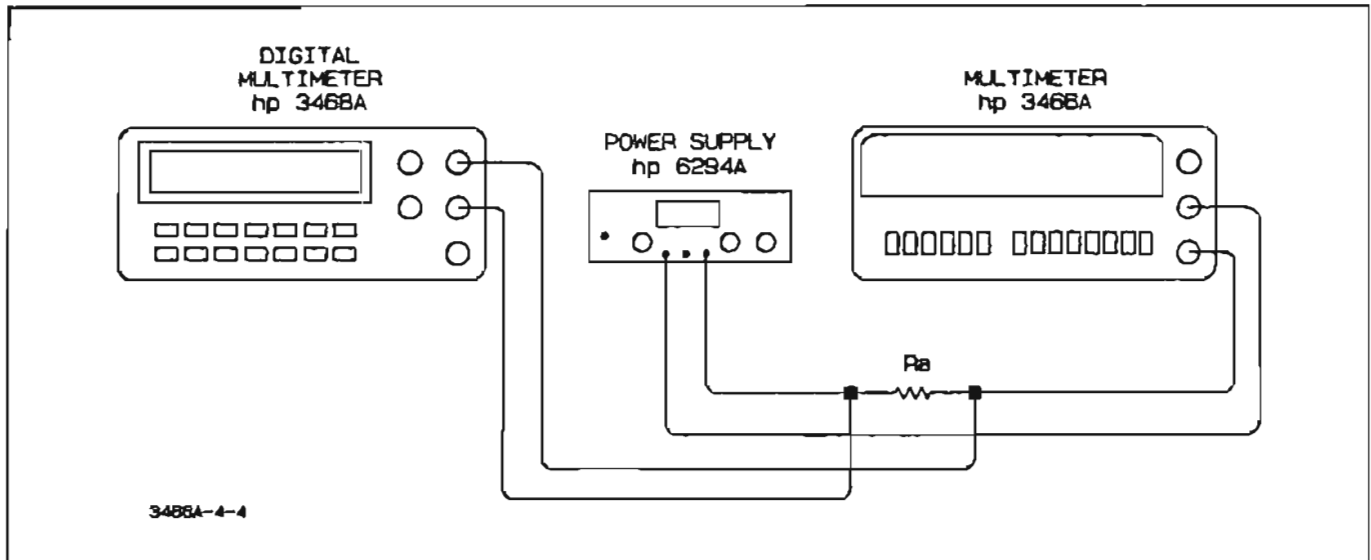

Figure 4-4. DC Ammeter Accuracy Test
- a. Connect the 3466A to the power supply and Digital Multimeter as shown in Figure 4-4.
- b. Connect the 100k ohm $\pm 0.01\%$ resistor in the R_a position as shown in Figure 4-4.